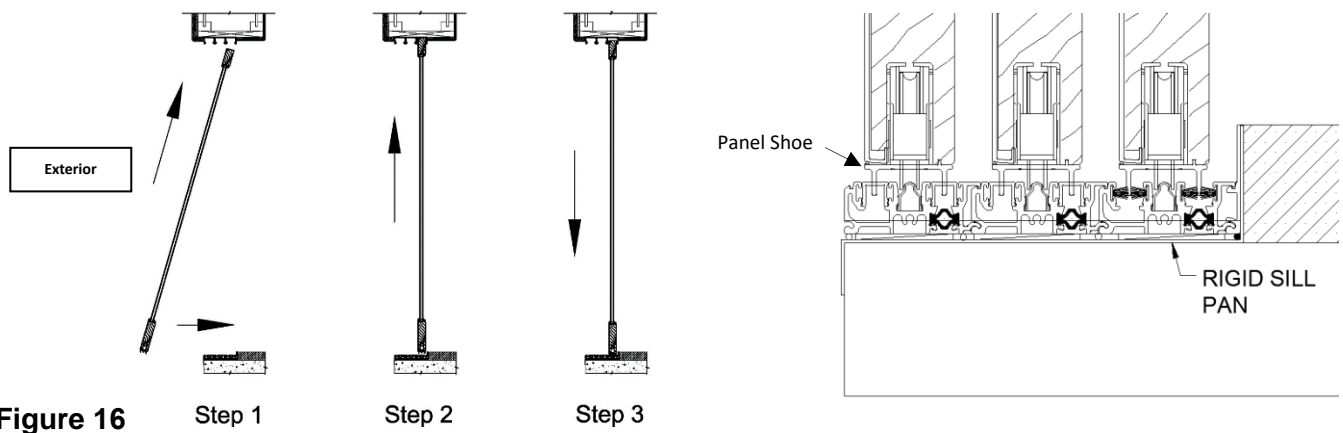

Figure 16
- 5.2 Beginning with interior-most panel, and from the exterior side of the door, install panel into head track first, then set bottom onto sill track. Make sure that the panel shoe at the bottom of panel aligns with the drain channels in the sill (see Figure 16).